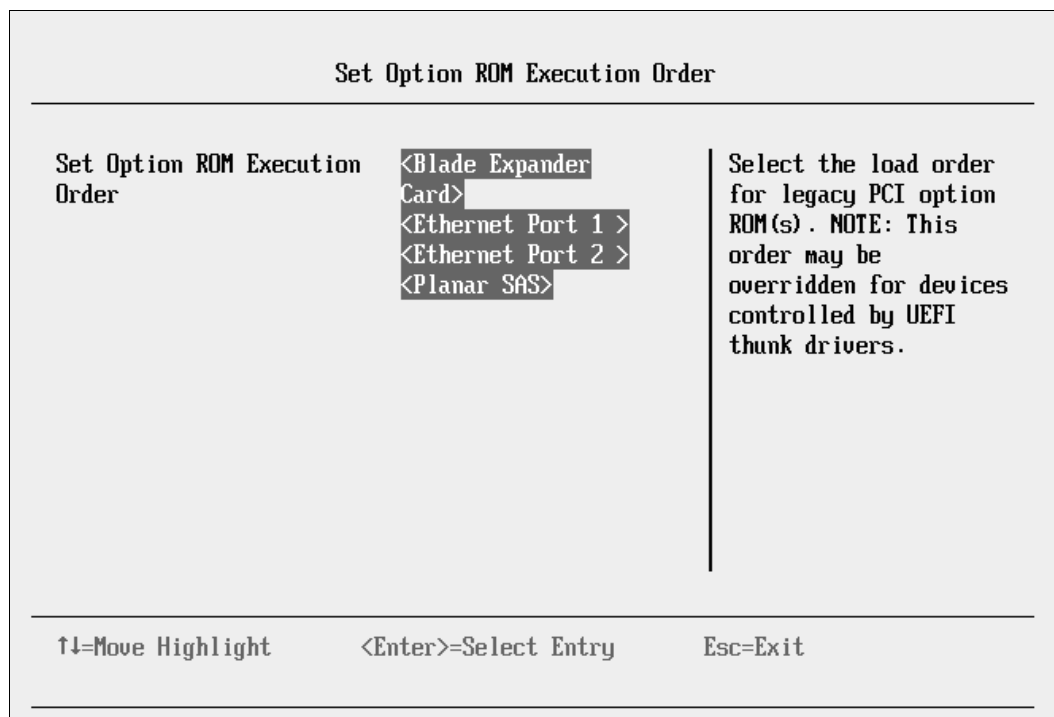

Figure 9-3 The Blade Expander Card shown as first in the ROM execution order
3. Press Enter when done. Figure 9-3 shows the results. Your window might vary based on the adapters that are installed in your system. Then press Esc.